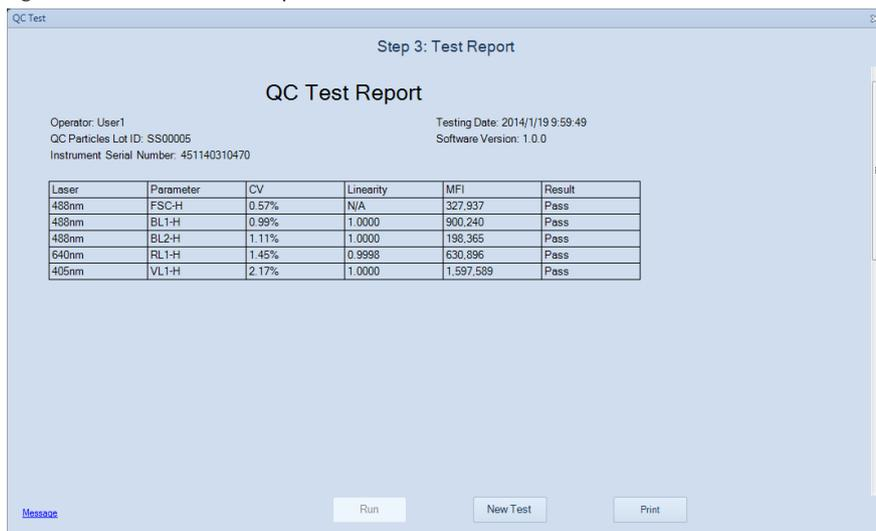

Figure 2-3 QC Test: Step 3-QC Test Report
- After the QC test is completed, click the *QC Test Report* button to view the test results. Figure 2-3 shows one example of the QC test results.
The parameters shown in the QC reports depend on the configuration of the *No-voCyte™* instrument and may appear to be different from the example shown in Figure 2-3.